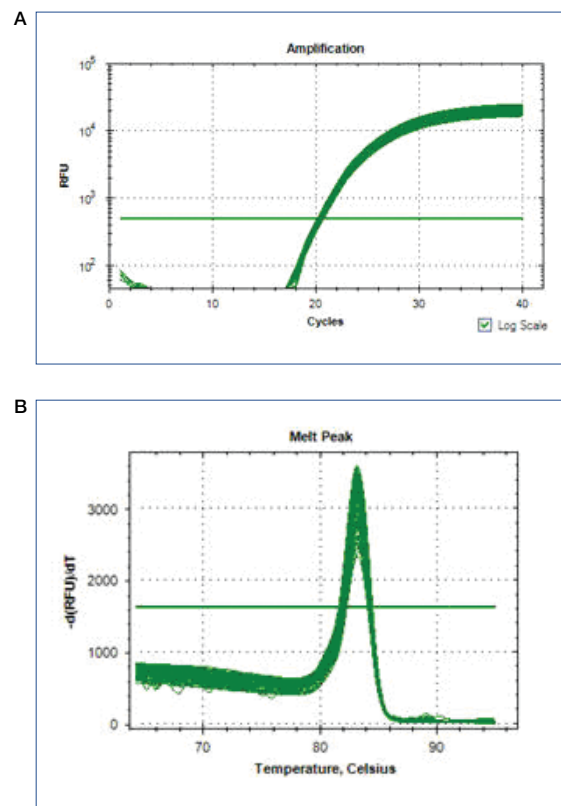

Fig. 4. Melt calibration data. A, amplification plot; B, melt curve plot with a single peak.
14. When the melt calibration run is complete, CFX Manager software automatically opens and processes the data file. Check the data file to ensure all wells display a tight amplification and a single melt peak (Figure 4).